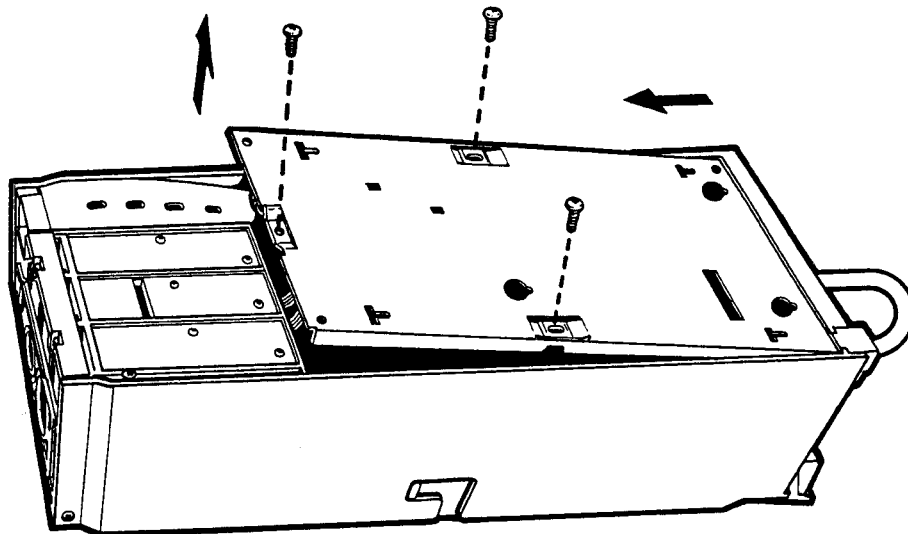

Figure 19: Removing the Backplate Assembly
- Lift the Backplate enough to grasp the base of the Control Board. Slide the Backplate out from under the tabs at the top of the Housing (Figure 19).